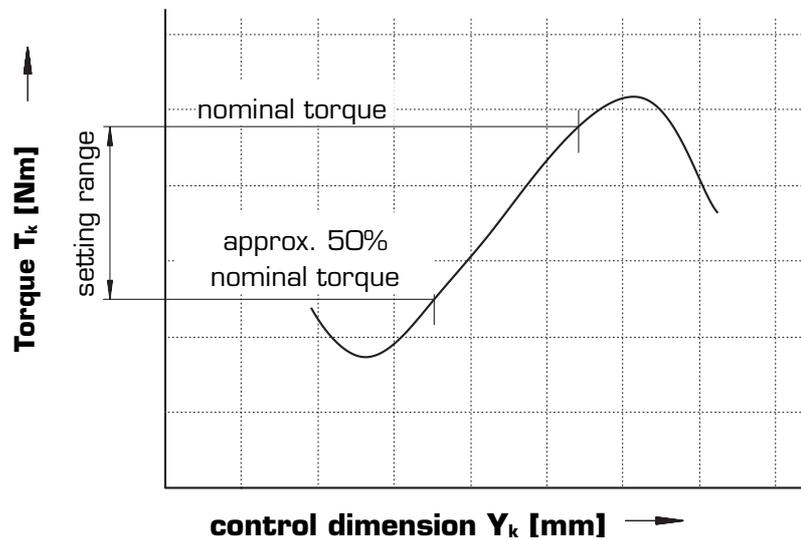

Figure 9: characteristic curve
The plate spring (1) indicates a negative characteristic in the working range, see figure 9.